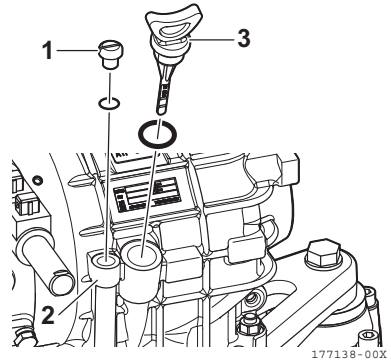
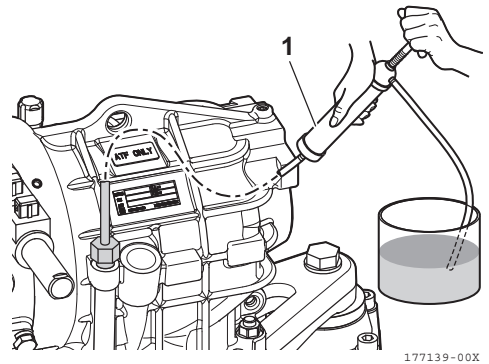

Figure 9
Figure 10
1. Oil change must be done removing the plug (1, **Figure 9**) from the oil suction pipe (2, **Figure 9**).
Suction can be done with hand pump (1, **Figure 10**).
2. Push the hose of hand pump (1, **Figure 10**) through the suction pipe (2, **Figure 9**) and suck the fluid off.
3. Un-screw the oil dipstick (3, **Figure 9**).
5. Screw in the oil dipstick (3, **Figure 9**).